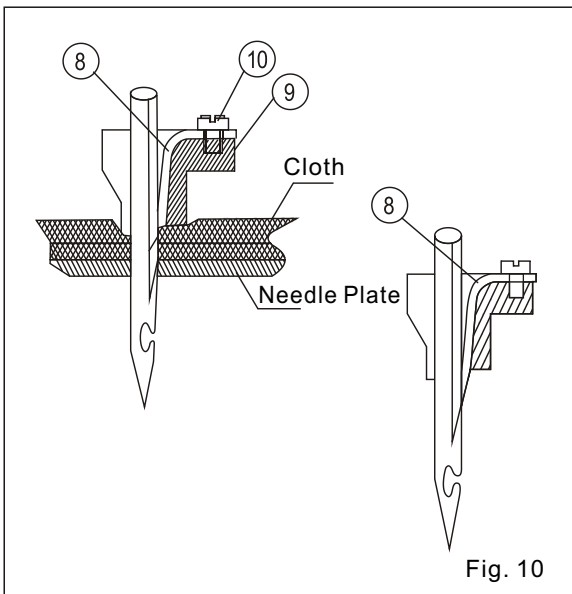

Fig. 10
(1) Make closing needle sleeve (No. 9 in Fig. 10) separated from closing needle sleeve shaft (No. 35 in Fig. 10), and sewing needle (No. 11 in Fig. 10) separated from needle bar (No. 36 in Fig. 10).
(2) Closing needle (No. 8 in Fig. 10) shall be placed in the trough of closing needle sleeve (No. 9 in Fig. 10), and then fixed by fastening screws (No. 10 in Fig. 10), and keep the jointing force between closing needle (No. 8 in Fig. 10) point and sewing needle as low as possible, as indicated in Fig. 10.